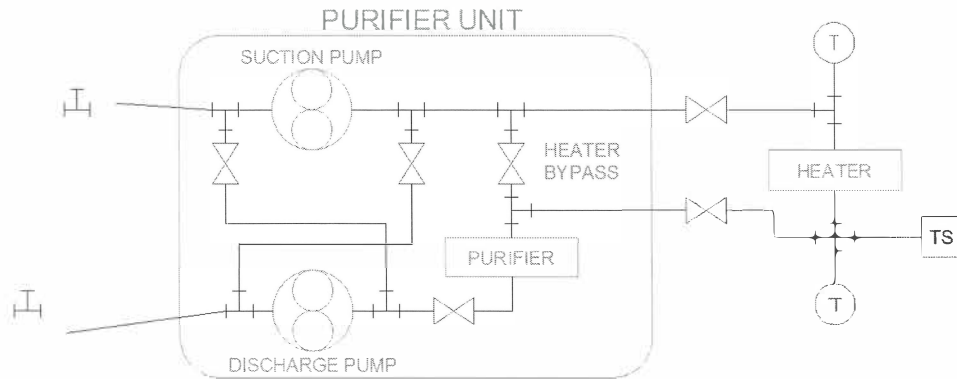

Figure 3-3
3. Use grips to copy and rotate the gate valve (the blue hourglass shape) to the locations shown in Figure 3-3. Use the **Nearest** object snap to place the valves precisely on the lines.
4. Use **Trim** to remove the section of the line inside the valves, as shown in Figure 3-3.